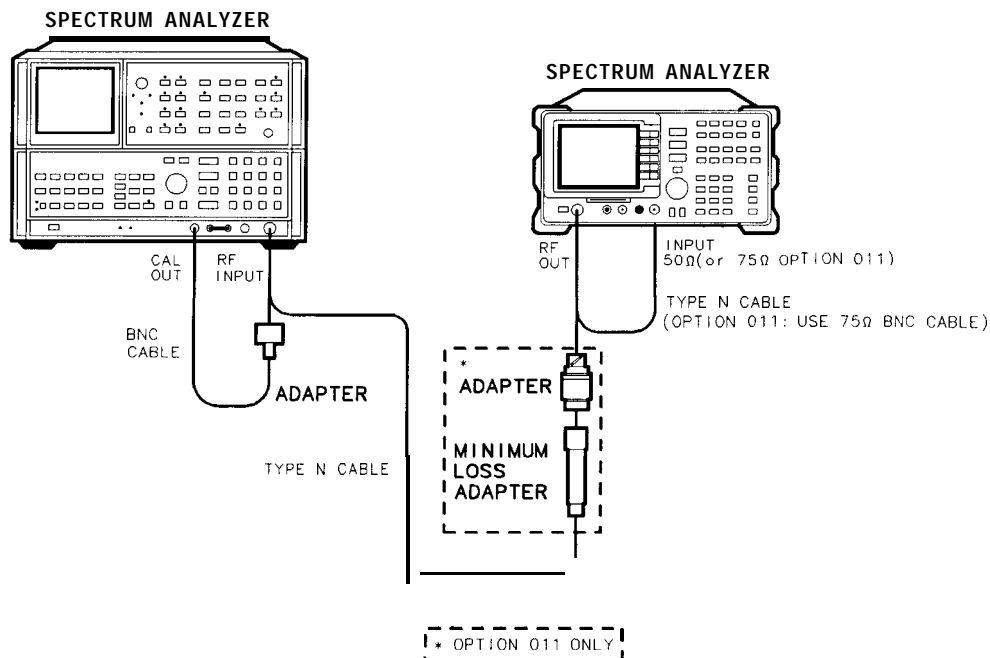

Figure 1-28. Non-Harmonic Spurious Outputs Test Setup
1. Connect the Type N cable between the RF OUT 50 Ω and INPUT 50 Ω connectors on the spectrum analyzer. See Figure 1-28.
7. Connect the Type N cable from the tracking generator output to the microwave spectrum analyzer RF INPUT as shown in Figure 1-28.